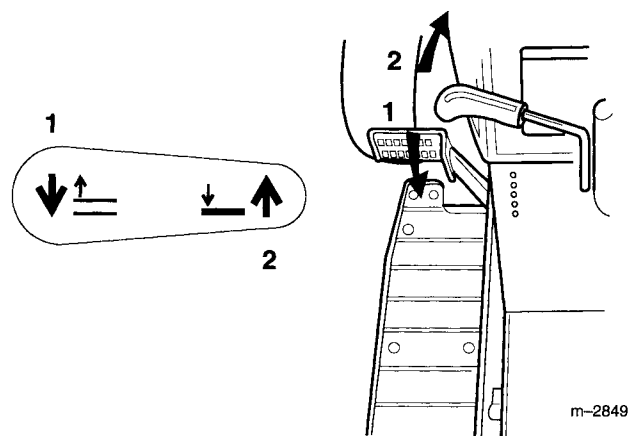

Figure 11
The attachment power lift (Fig. 11) is used to raise and lower attachments.
2. Pull the lift lever in the “UP” direction to raise the attachment lift (Fig. 11). This will lift and hold the attachment in the up, or raised position.
2. Push the lift lever in the “DOWN” direction to lower the attachment lift (Fig. 11). This will lower the attachment lift.